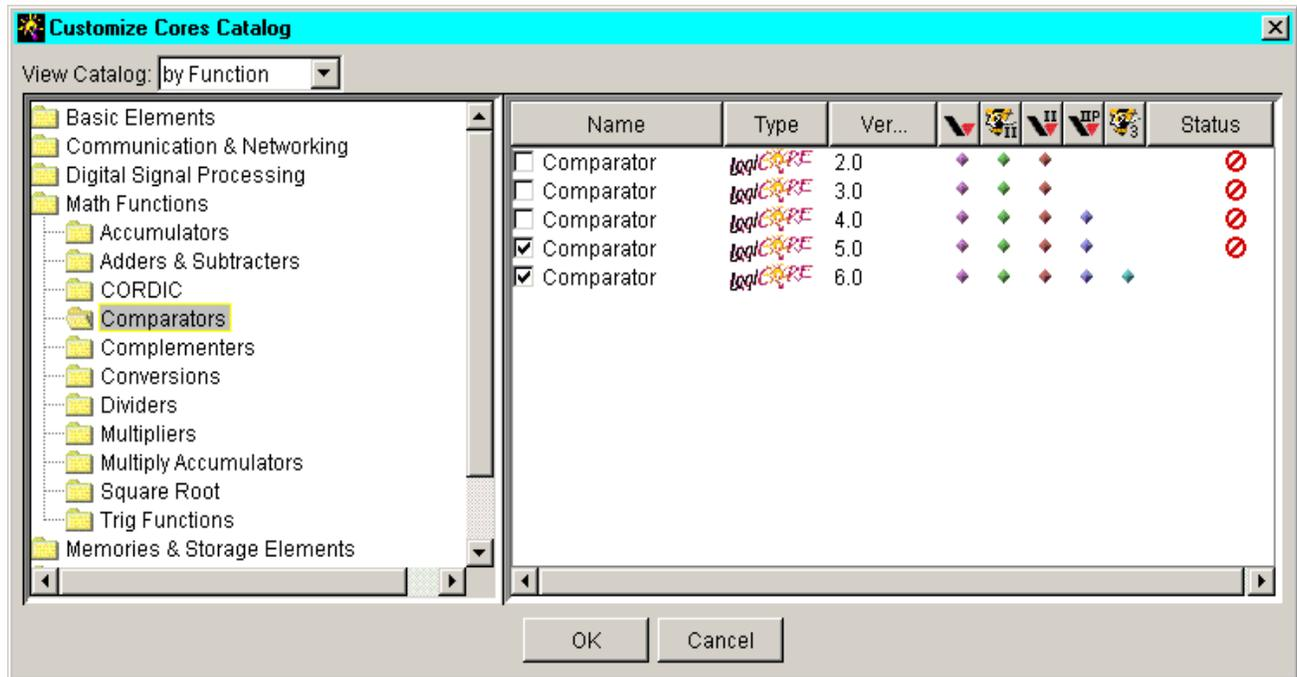

Figure 3-14: Making the Comparator v5.0 Core Visible in the Cores Catalog Display
1. Locate the core by navigating to **Math Functions** → **Comparators** as shown in Figure 3-14.